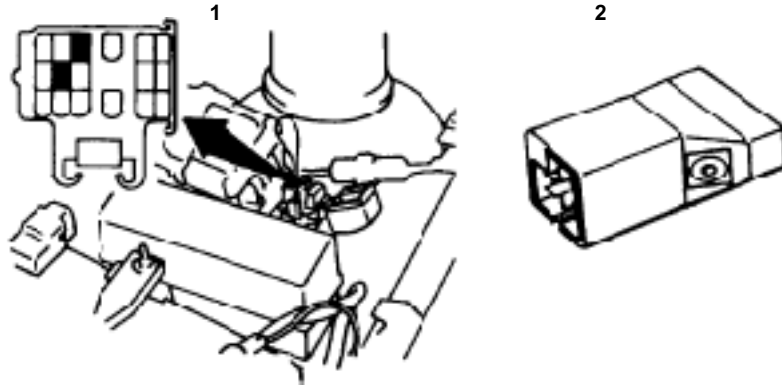

Figure 7-12 1992 Prizm with 4AGE and 1993–95 Prizm with 7AFE transmission
- Connect the TOY-1 adapter to the connector shown in Figure 7-12.